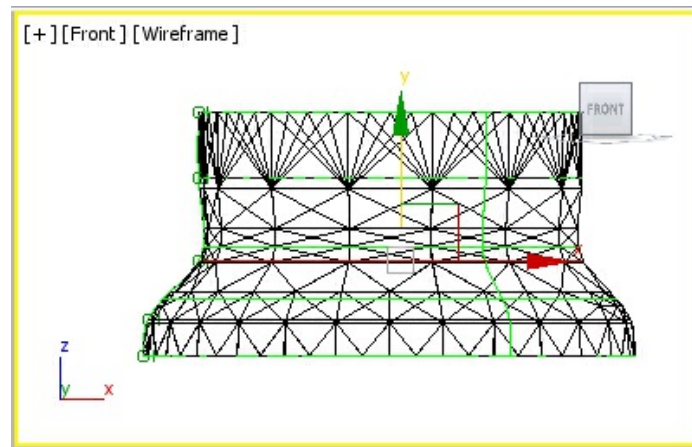

Figure 10-91 *The NURBS curves modified in the Front viewport*
7. Select the **Curve** sub-object level. In the Front viewport, modify the NURBS curves using the **Select and Move** and **Select and Uniform Scale** tools, as shown in Figure 10-91.